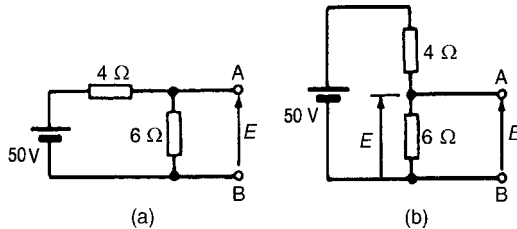

Figure 13.30
- (ii) The open-circuit voltage, E , across terminals AB in Fig. 13.30(a) is the same as the voltage across
the $6\ \Omega$ resistor. The circuit may be redrawn as shown in Fig. 13.30(b)